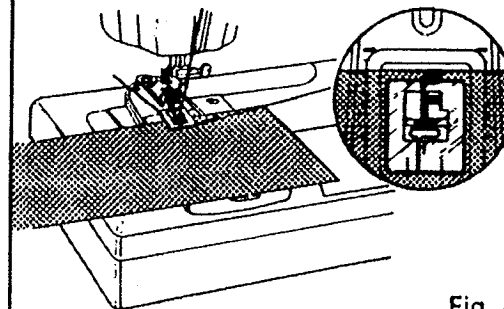

Fig. 4
4. Pick up bobbin thread through guide plate by turning hand wheel and drawing thread to back of machine. Place fabric between presser foot and guide plate. Line up edge of fabric with marked indentation on guide. See Fig. 4. If you wish all buttonholes to be $3/4$ inch from edge of garment, line up fabric with $3/4$ inch marking each time you start sewing a buttonhole.